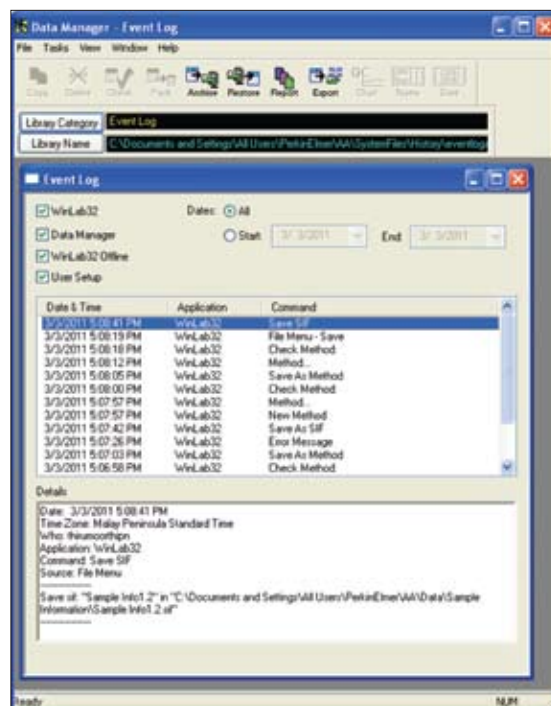

Figure 2. Viewer for the Master Event Log.
- The software maintains a Master Event Log that records all significant actions performed by the user. Each entry includes the date and time of the action, what was done, the name of the user, and, in many cases, the reason the action was performed. This event log can be viewed or printed using the Data Manager (Figure 2).